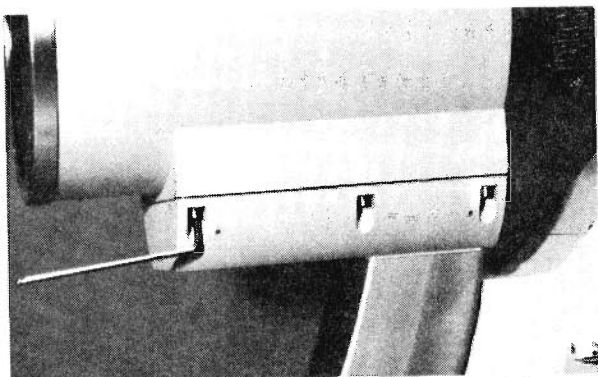

Fig.1 , shield connected to the couple-plate.
- (3) remove the top cover from the shield
- (4) disconnect all the cables from the II/TV adaptation PCB
- (5) remove the two hand grips from the shield
- (6) disconnect WK4: X1, X2 and X3 from the camera, loosen the camera locking devise and remove the camera from the basic lens
- (7) remove the 6 screws from the couple-plate see Fig.1 page 26
- (1) mount the shield assy back to the couple-plate (on the stand), with 6 screws see Fig.1 page 26
- (2) mount the camera to the basic lens and connect WK4: X1, X2 and X3 to the camera
- (3) mount the two hand grips to the couple-plate
- (4) connect all the cables to the II/TV adaptation PCB
- (5) mount the top cover to the shield